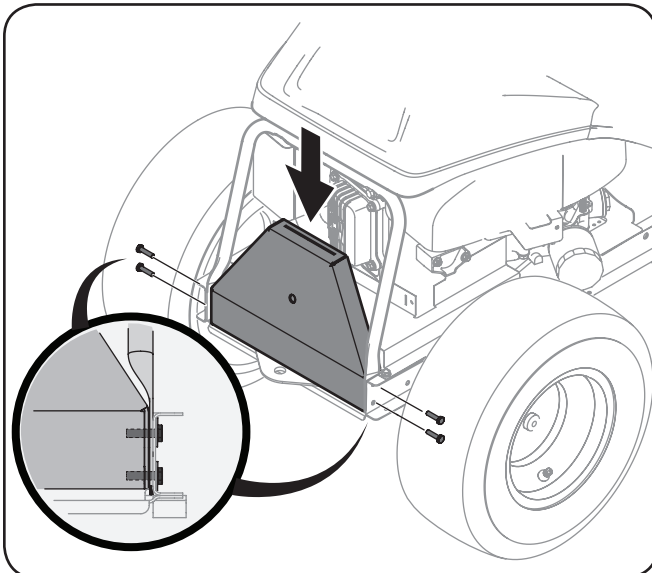

Figure 4-2
2. Install the bagger mounting bracket on the tractor, using four 710-3015 hex bolts from hardware pack 689-00210. Feed each hex bolt through the tractor frame, the rear hood mounting tube, and thread into the weld-nut on the bagger mounting bracket, as shown in Fig. 4-2.